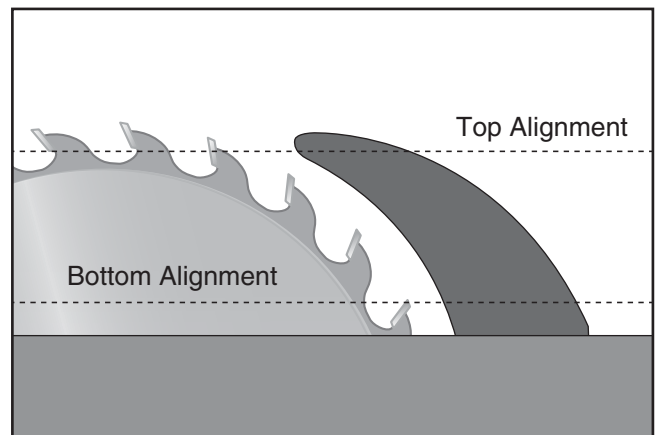

Figure 5. Checking top and bottom riving knife parallelism with blade.
6. Place straightedge against top and bottom of blade and riving knife, as shown in **Figure 5**.